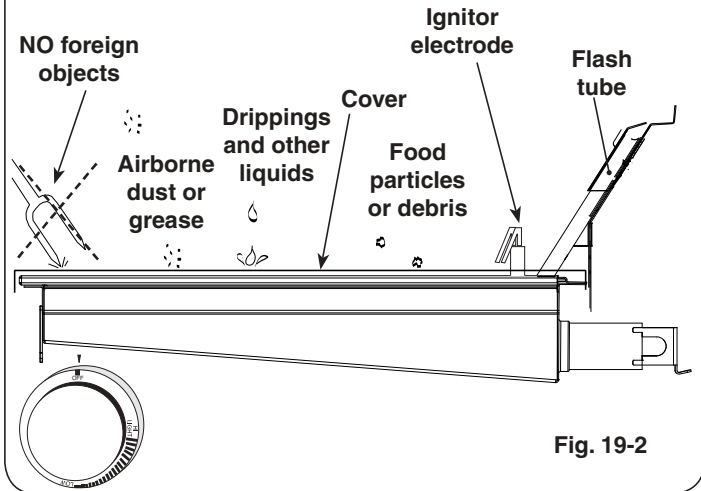

Fig. 19-2
- When not in use, **always** cover the infrared burner with the stainless-steel cover. This protects the burner from drippings (from other cooking), airborne particles, and foreign objects (Fig. 19-2).
- Do not strike or scratch the burner ceramic as it may chip, crack, or break (Fig. 19-2).